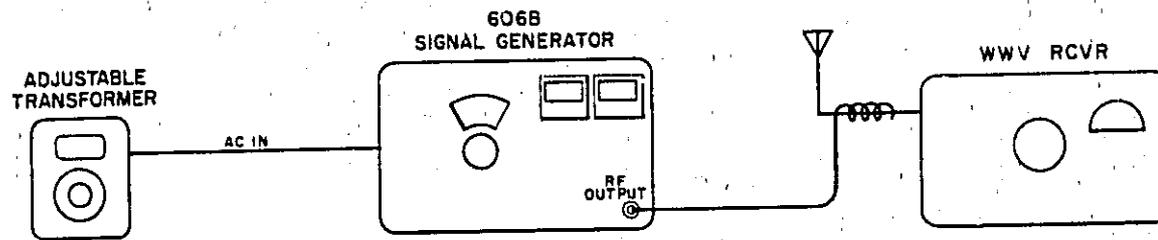

Figure 5-4. Frequency Calibration Test Setup Using WWV Receiver
a. Set line voltage to 115 (230) volts and allow both Receiver and Signal Generator to warm up for fifteen minutes.
c. Lightly couple a single wire from the RF OUTPUT jack to receiver antenna, as shown in Figure 5-4.